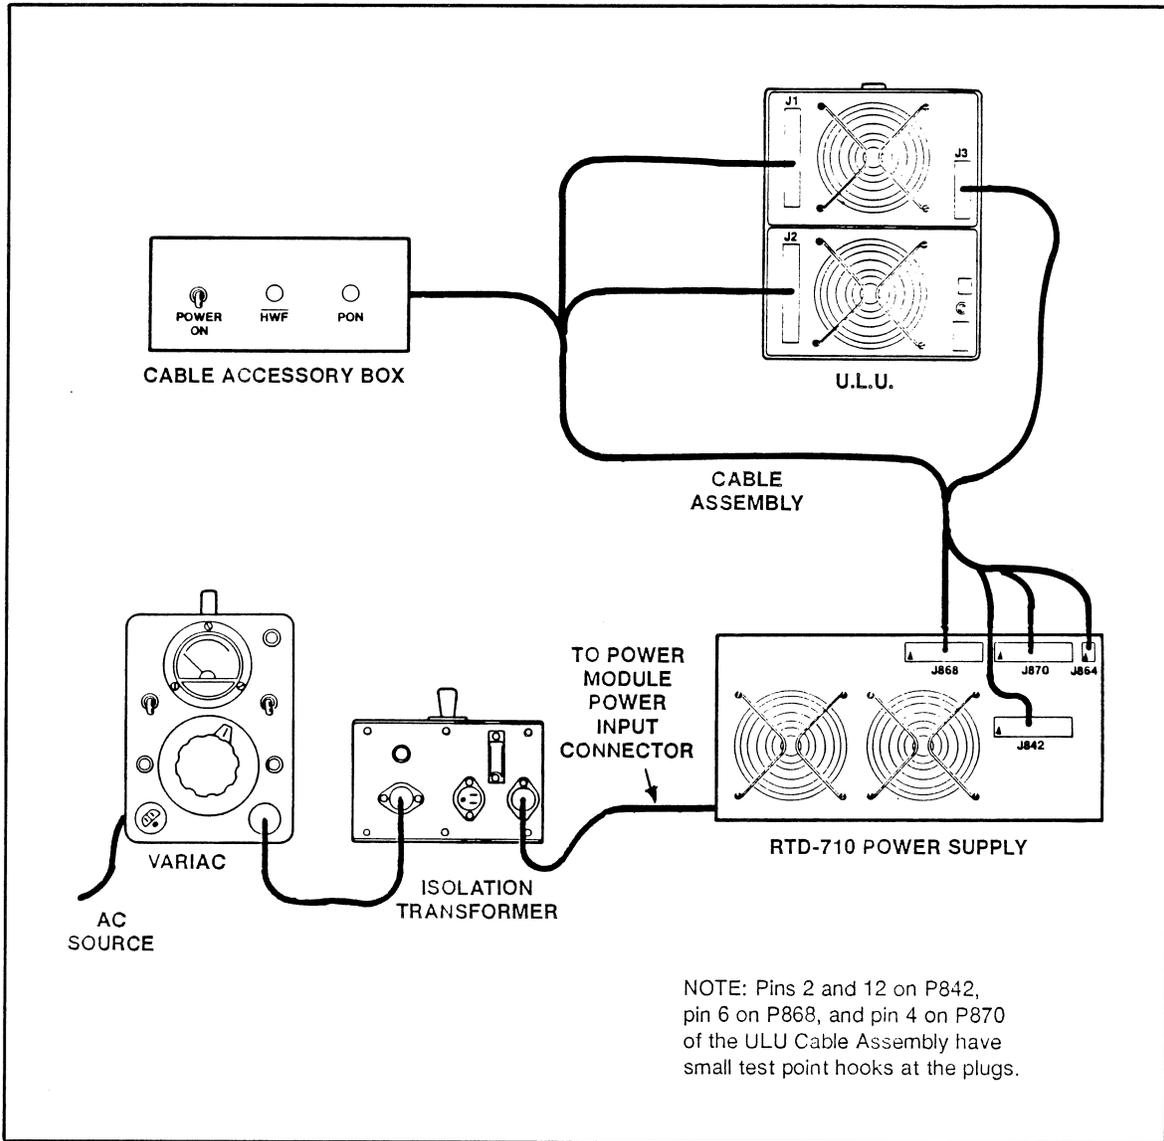

Figure 2-1. ULU/power supply interconnection.
2. Connect the cable harness (as indicated by the designations on the harness connectors) to the three rear panel connectors on the ULU (J1, J2, and J3) and the four connectors on the RTD-710 Power Supply (J842, J864, J868, and J870). (See Figure 2-1.)